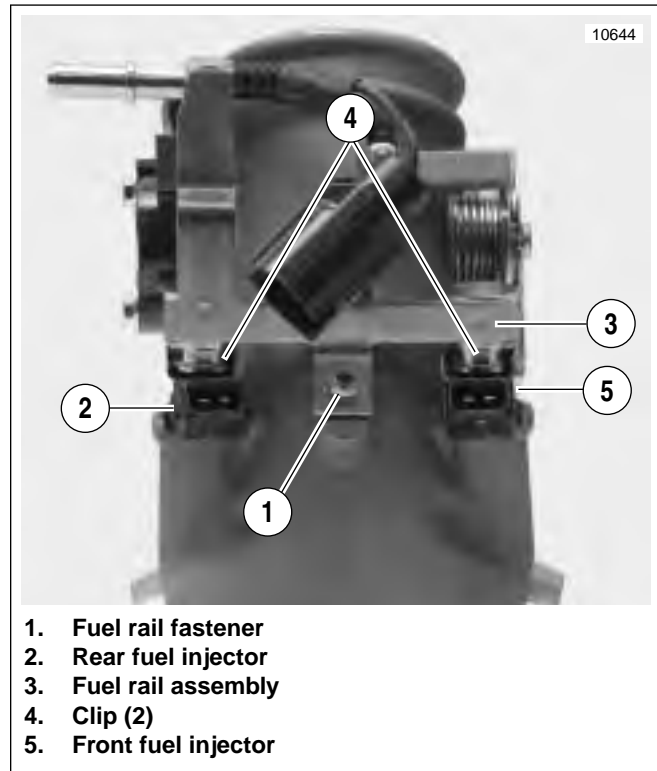

Figure 4-102. Fuel Injectors
- a. See Figure 4-102. Remove both injector clips (4).
- b. Remove fuel rail fasteners (1) that hold the fuel rail to the throttle body and manifold.
6. See Figure 4-102. Install fuel injectors.
- b. Press the fuel rail assembly (3) onto the top of the injectors.
7. Snap the injector clips (4) over the flange on the fuel rail outlet and into the top groove in the injector.